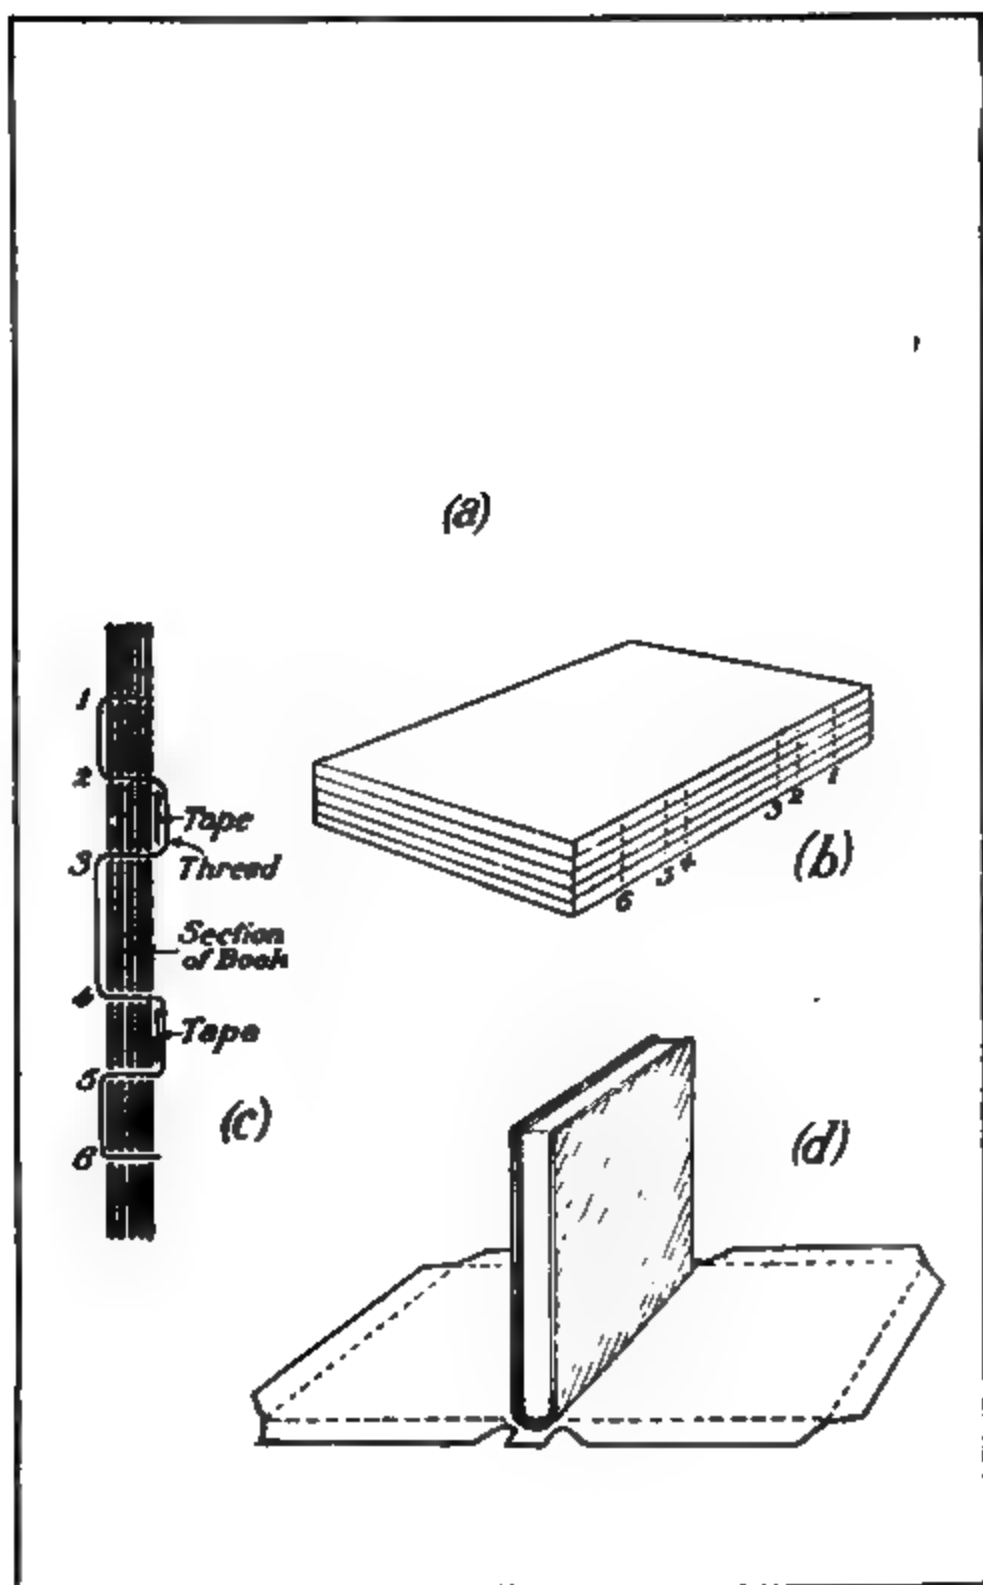

Fig. 144.—Bookbinding operations.
Get two pieces of fairly wide tape and soak them in flour paste to make them stiff, and lay them out to dry. While the sections are still under pressure, rule down the back six lines (in pencil) as shown in Fig. 144, *b*, taking care that the pencil marks every section—that there are six marks on each. The spaces between lines 2 and 3, and 4 and 5, should be equal to the width of the tapes, for a reason which will soon be apparent.
over one of the tapes. In the same way pass the needle out at 4 and back at 5, enclosing the second tape. If a section were now opened out flat and looked at edgewise, the tapes being viewed endwise, the thread is seen to pass to and fro as in Fig 144, c. It would not, of course, be left as loose as shown—for clearness only.
*Covering.*—The two pieces of cardboard which form the covers are fastened on by gluing to them the projecting edges of the tapes and the free edges of the back canvas. The joint is made doubly secure by gluing two narrow strips of canvas lengthwise over tape ends and back canvas (Fig. 144, a).
The boards and back are covered by a single piece of book "cloth," cut large enough to lap over the three free edges of each board (Fig. 144, *d*) and the ends of the piece of brown paper stuck to the inside of the part which covers the back. When the cloth is dry, line the inside of the covers with stiff, smooth paper.